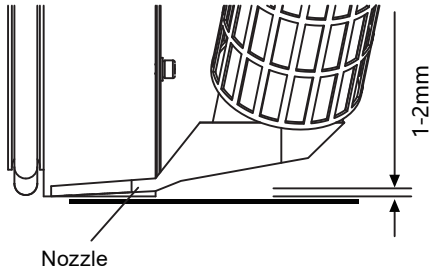
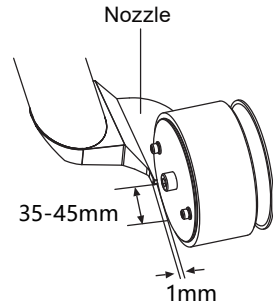

Fig 1
Fig 2
- ◆ The factory setting of the nozzle is shown in Fig 1 and Fig 2.